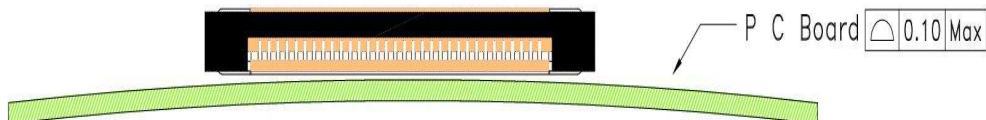

Figure 2.1
- ※ Minimize the war page as much as possible. The connector is straight within 0.1mm max. Make sure that the mounting area flatness can accept the connector terminals without causing any failure of the solder joints. (See Figure 2.1)